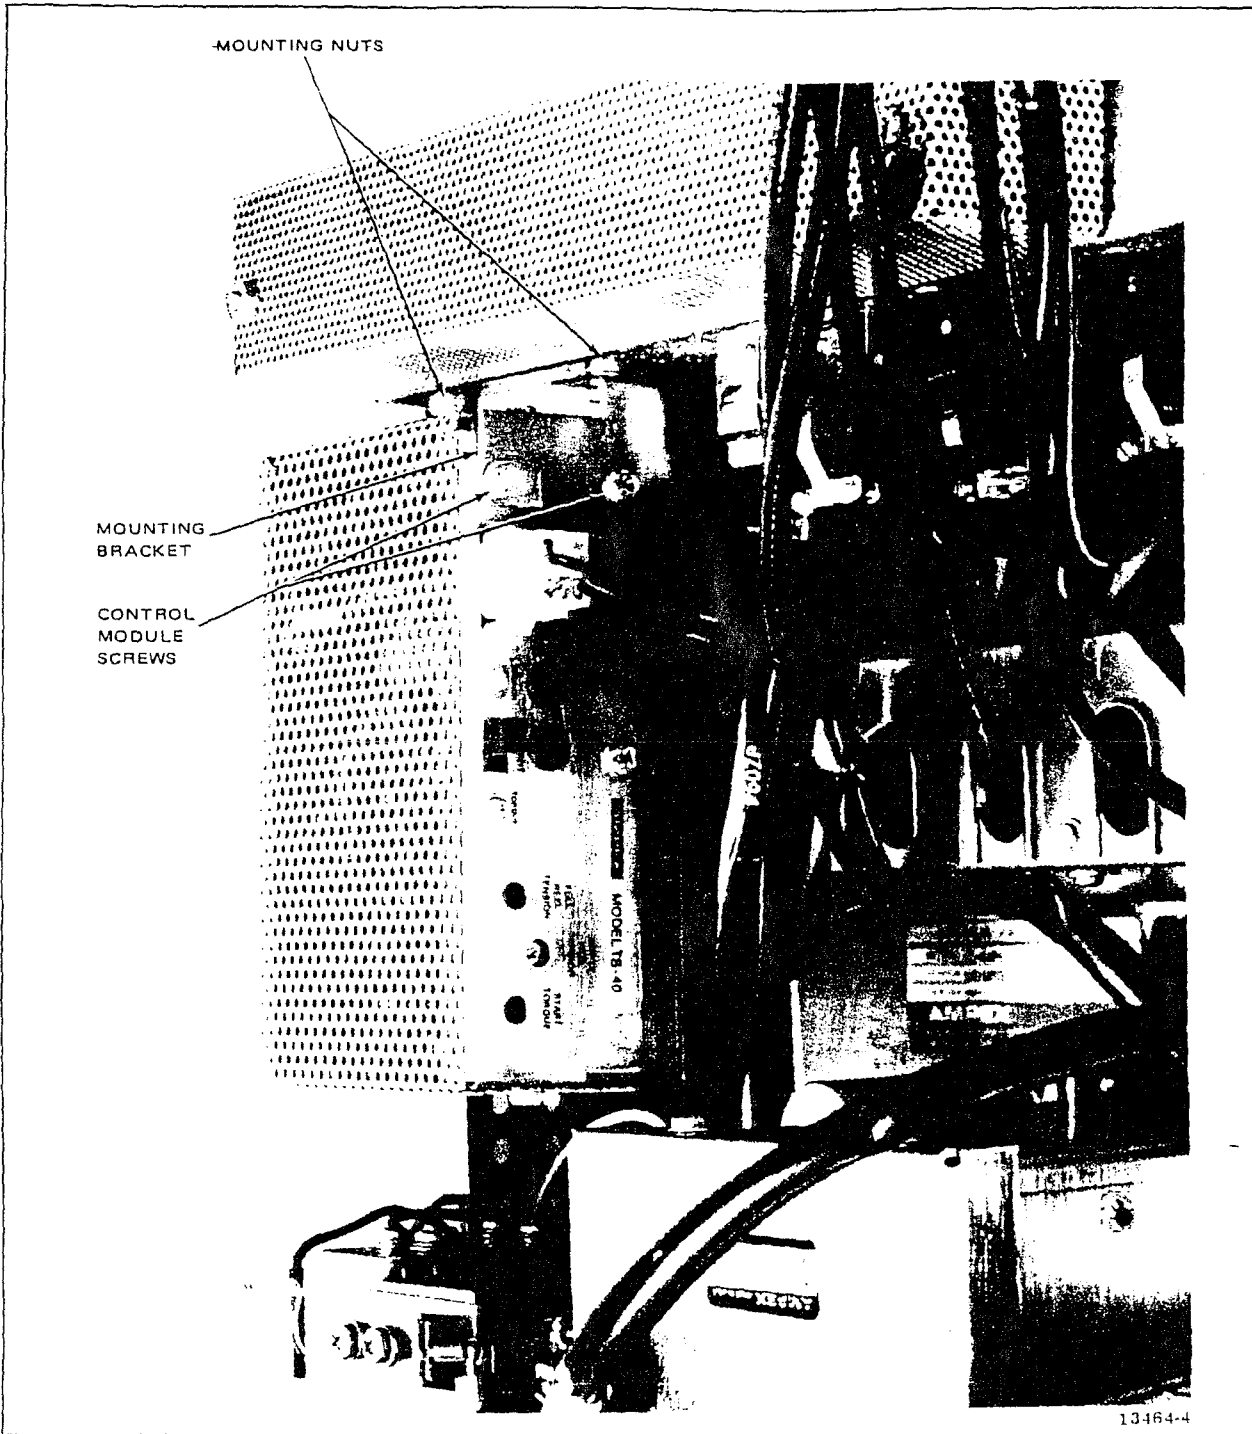

Figure 3. TS-40 Installed on the Transport Assembly
Figure 3 shows the TS-40 control module installed in the recorder/reproducer. The installation is accomplished as follows:
2. Loosen the four nuts which mount the power transformer to the underside of the transport control box. Two of these nuts are shown in Figure 3.
4. Remove two screws from each side of the control module near the connector end. Figure 3 shows two of these screws.